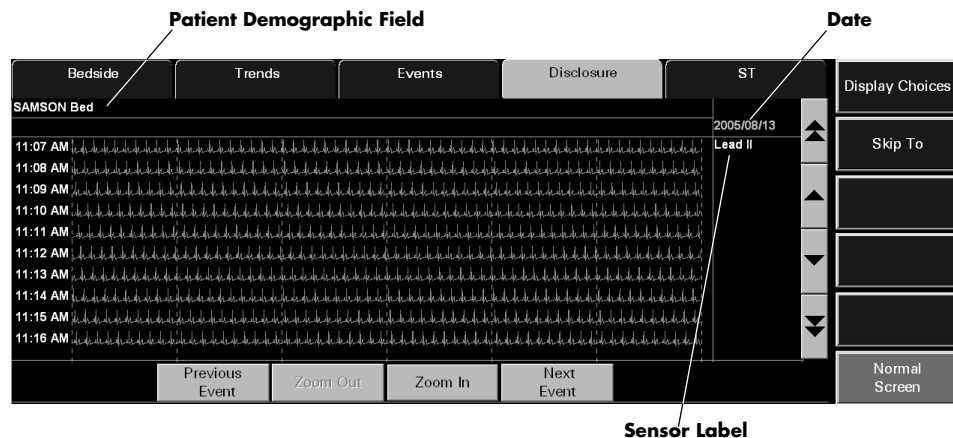

FIGURE 7-20 Disclosure Tab - Compressed View (Central Station, ViewStation, WorkStation)
The **Disclosure** tab is available at the ViewStation and the WorkStation (shown in FIGURE 7-20) and functions in the same manner as it does at the host central station. The **Disclosure** tab will display the disclosure data from the central station, provided the patient file is communicating with the central station.
2. Select the **Disclosure** tab. The **Disclosure** tab (shown in FIGURE 7-20) **Compressed** view is displayed.
The date the selected waveform data was recorded is displayed in the upper right corner of the waveform area (shown in FIGURE 7-20).
A sensor label for the selected waveform data is also displayed in the upper right corner of the waveform area, just below the date (shown in FIGURE 7-20).